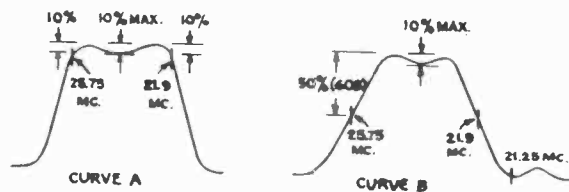

FIGURE 4 - I-F RESPONSE CURVES
- b. Response Curves - The i-f response curves for the video i-f stages are shown in figure 4.